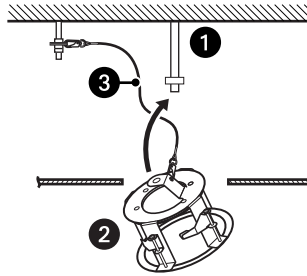

Figure 22. Connecting the Mount Bracket to the Safety Wire
- ❶ Spacer Nuts
- ❷ Safety Wire Angle
- ❸ Existing Anchor Bolt
- ❹ Safety Wire
- ❺ Spacer Nuts
4. Connect the safety wire to the ceiling mount bracket (refer to Figure 22).